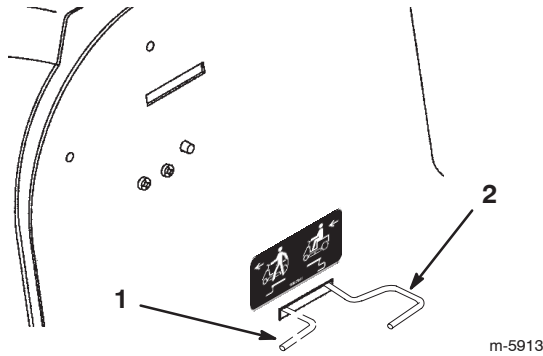

Figure 9
4. Push the drive control rod in and slide it to the left to lock it in place (Fig. 9).